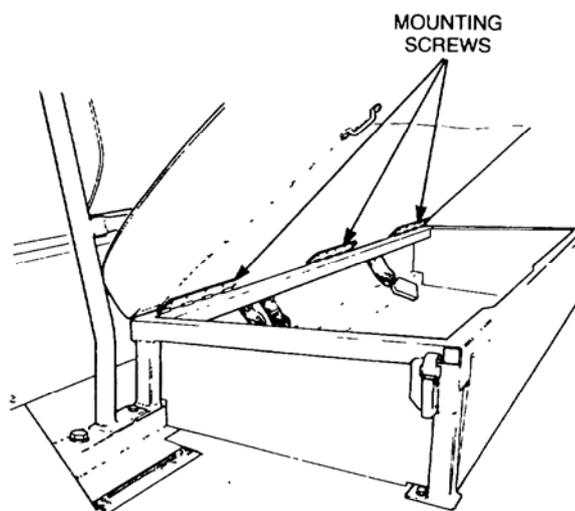

Figure 8 Rear Seat Cushion and Base Mountings
- c. Remove the fifteen countersunk screws, washers and Nyloc nuts securing the seat cushion and base to the seat frame hinges (refer Figure 8).